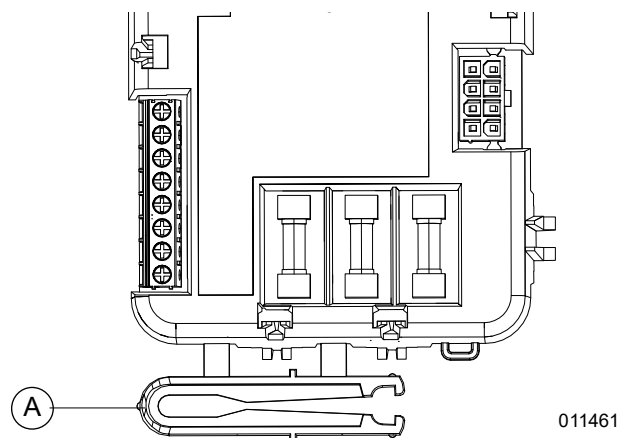

Figure 4-2. Fuse Removal and Installation Tool
See *Figure 4-2*. A fuse removal and installation tool (A) is included in the controller housing.